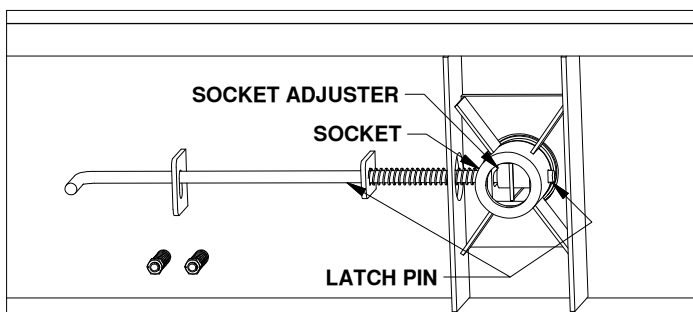

Figure D3: View under truck bed.
**WARNING:** Check the latch pin under the truck. Make sure that the latch pin has passed through both sides of the socket and that the pin is covered up inside the socket by the socket adjuster, see Figure D3.